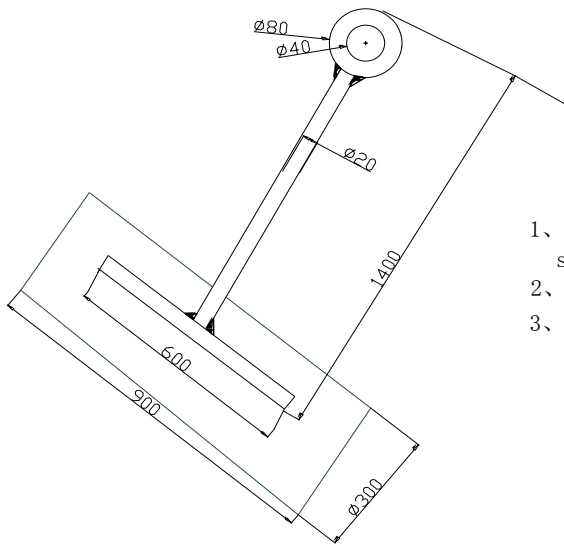

Figure2
4. The making and size of the upper tower is shown in figure 2. Its requirement: solid welding; no leak at the weld zone; the earth lug must be welded 20cm away from the ground (clearly visible). It will be connected to the lightning grounding device.
figure 2 wind turbine flange connection in the top of tower